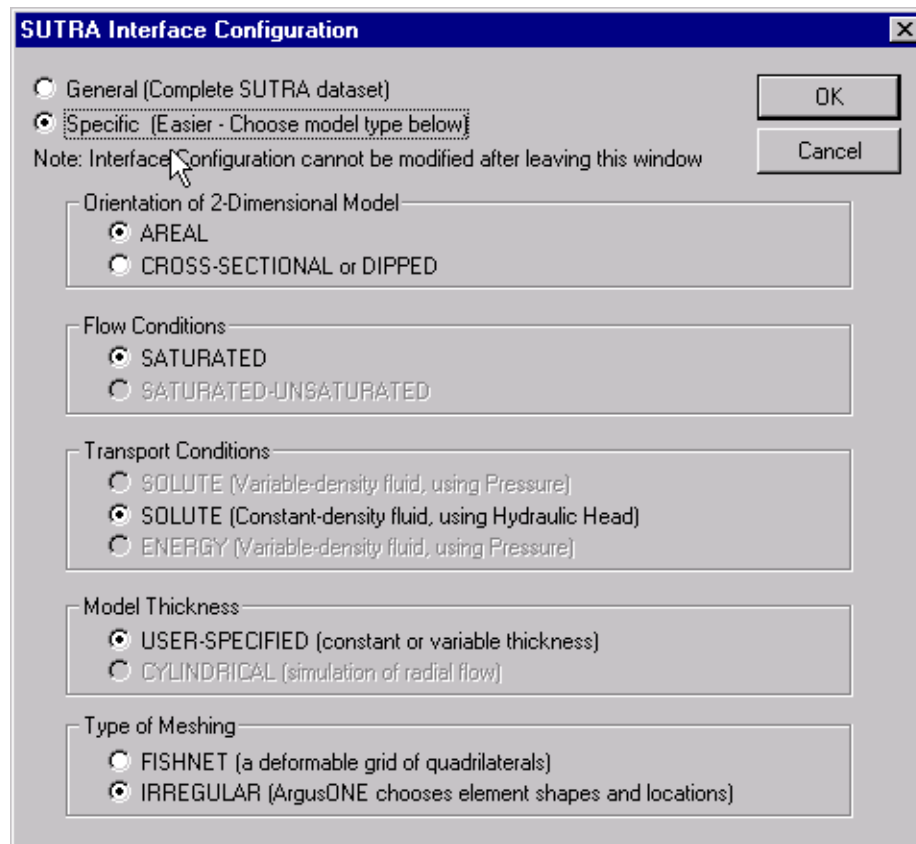

Figure 9. SUTRA Interface-Configuration Window
The *SUTRA Interface-Configuration window* (Figure 9) allows the user to choose the type of simulation problem to be solved with SUTRA, and sets up the GUI to include the appropriate geospatial information layers, and sets names of layers and parameters to be appropriate for the chosen problem type. For example, an areal problem will include an information layer called “hydraulic conductivity” and refer to “hydraulic head” whereas a cross-sectional problem with variable-density fluid will have a layer called “permeability” and refer to “pressure”; an unsaturated problem will include an information layer called “unsaturated properties” while a saturated-only problem will not have such an information layer.
- Should the user prefer to configure the Argus-SUTRA GUI for a certain type of problem, then the option **Specific** should be selected. This makes available a set of choices to the user in the lower portion of the window, allowing the user to specify the problem type, as well as the type of meshing (see Figure 9).